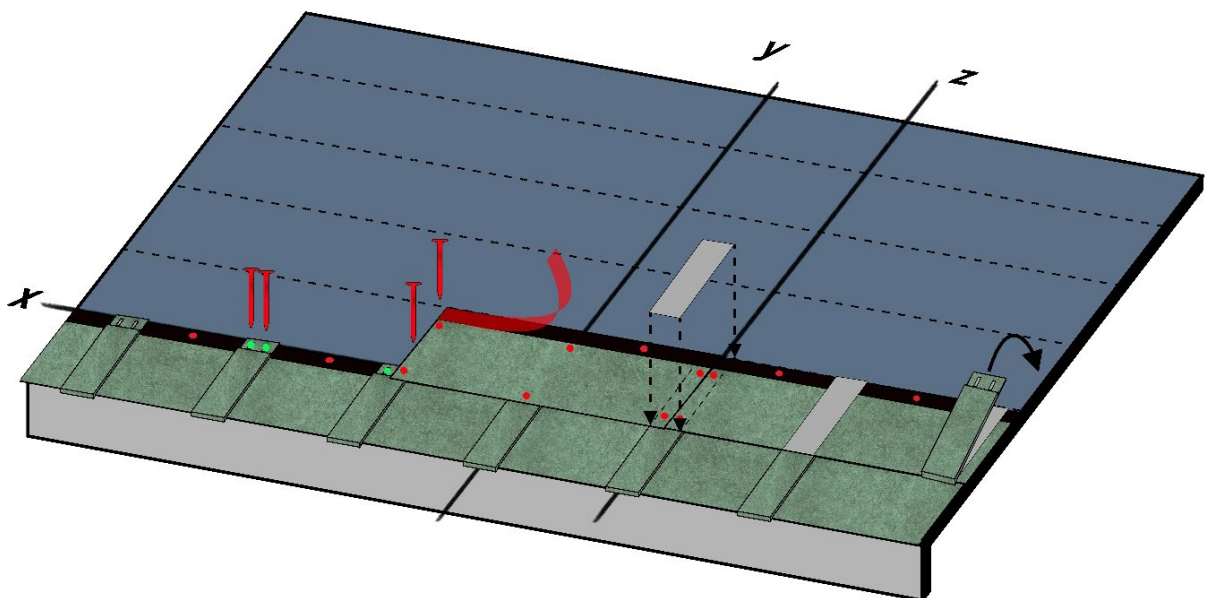
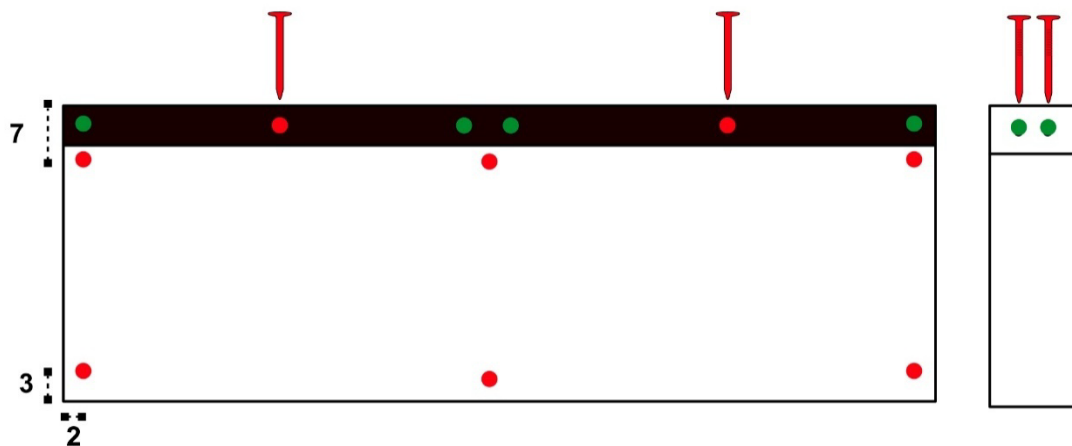

Fig. 10 - Installation of the second row of shingles
Fig. 11 - Shingle nailing
- Proceed with the installation of the shingles of the starting row: align the lateral edge of the first shingle on the vertical **y** and the upper edge on the horizontal **x**. Remove the protective film of the self-adhesive strip. Fix the shingle to the substrate with stainless steel nails placed at 2 cm from the edges (see nail position of Fig. 11 - red nails).
- Proceed with the installation of the second row of shingles: align the lateral edge of the first shingle with the vertical line z and the upper edge with the horizontal line 29 cm away from x – Fig. 10. Remove the protective film from the self-adhesive strip on the top of the shingle. Nail the shingle to the substrate using the stainless-steel nails, as shown in Fig. 11 – red nails. The green nails indicated in Fig. 11, are those use to fix the Compact Clips. Proceed with the installation of all the shingles of the row, in the same manner, apply the Compact Strips and the Compact Clips and fix them – Fig. 10.